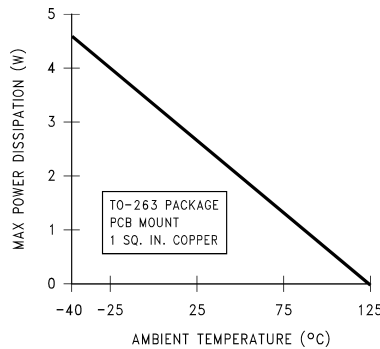

**Figure 29.  $\theta_{(J-A)}$  vs Copper (1 Ounce) Area for the DDPAK/TO-263 Package**
**Figure 29** shows for the DDPAK/TO-263 the measured values of  $\theta_{(J-A)}$  for different copper area sizes using a typical PCB with 1-oz copper *and no solder mask over the copper area used for heat sinking*.
As shown in Figure 29, increasing the copper area beyond 1 square inch produces very little improvement. It should also be observed that the minimum value of  $\theta_{(J-A)}$  for the DDPAK/TO-263 package mounted to a PCB is 32°C/W.